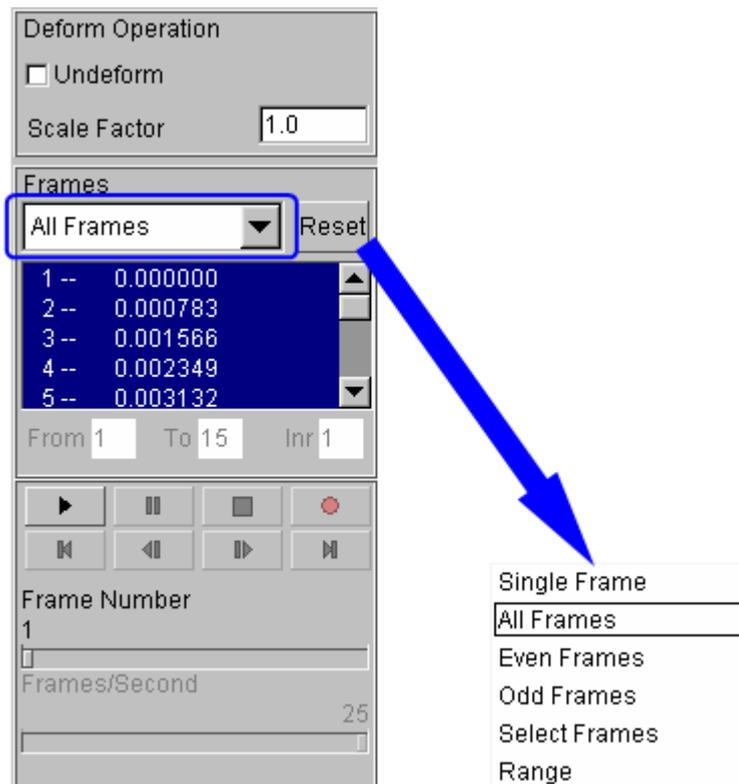

Figure 3.48 Animating deformation dialog box
1. The default **Plot State** is **Deformation**. In the **Frame** dialog, select **All Frames** and click **Play** button to animate the results. See Figure 3.48.